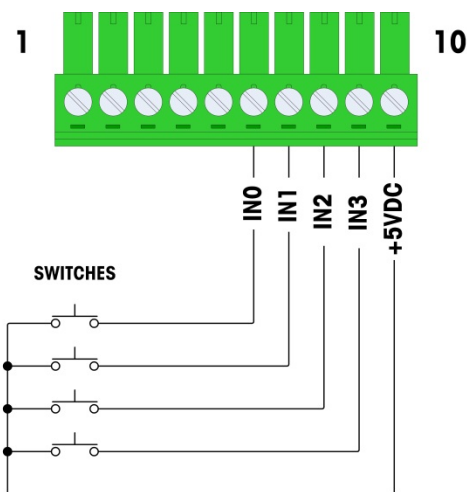

Figure 2-85: Example of Active Input from Switches
Selecting the inputs as active enables connection of switches or other simple devices to trigger an input. No voltage is supplied by the external simple device. An example of how to wire to the active inputs is shown in Figure 2-85. Note that pin 10, the +5VDC connection, can carry no more than 200 mA current.
- The +5VDC shown in Figure 2-85 is referenced to an internal ground inside the discrete I/O card. Measuring from pin 10 to the IND780 chassis ground will **not** show +5VDC. The +5VDC output is used internally, and has no function except for digital inputs as shown in Figure 2-85.